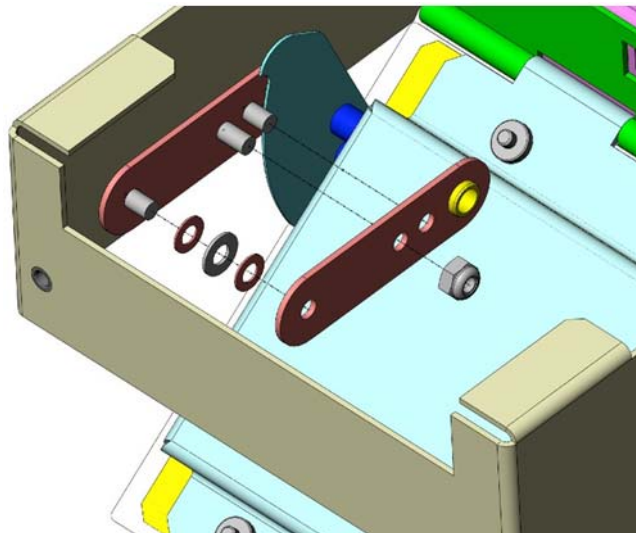

Fig. 3-8: CHRCP-LCD1 Installation Step #3
- 3 Attach hinges on each side (Figure 3-8).